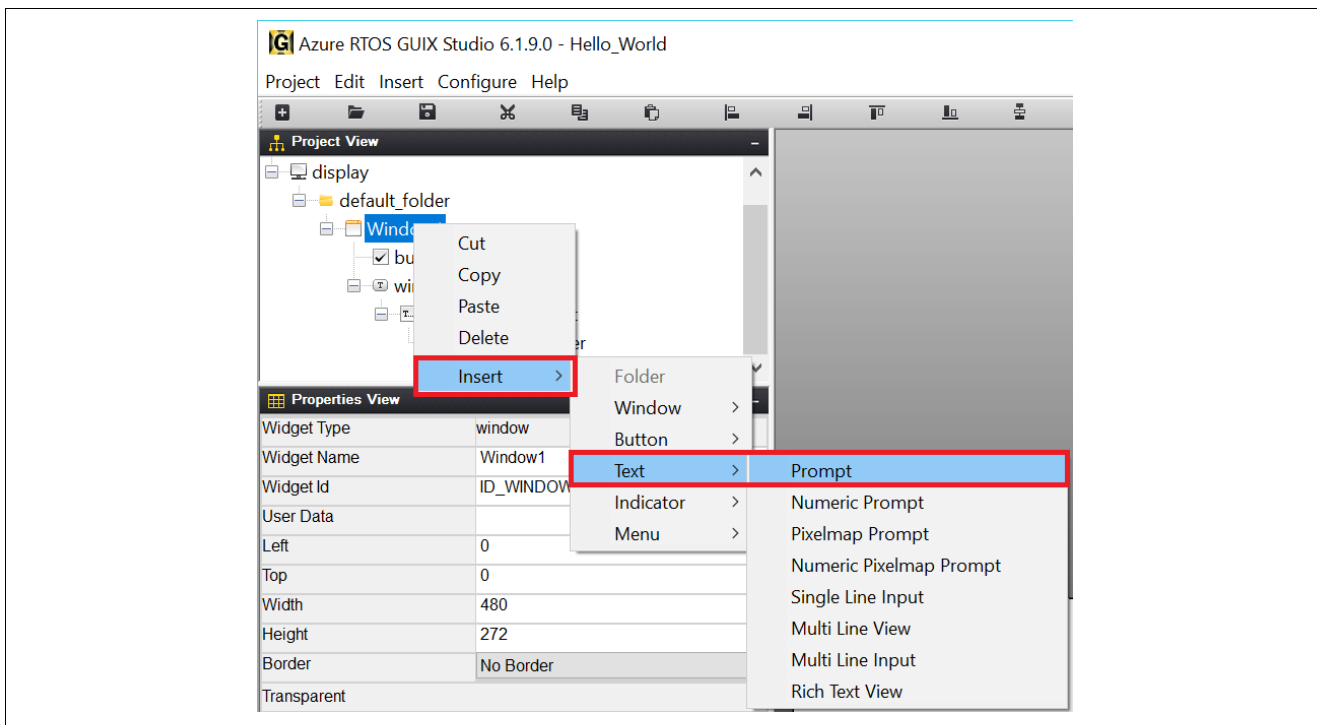

Figure 67. Insert Prompts
14. Insert **Prompt**. Right click on **Window1** and follow Figure 67. Insert two times to get two prompts. **Prompt** and **Prompt1** will show up once you finish.